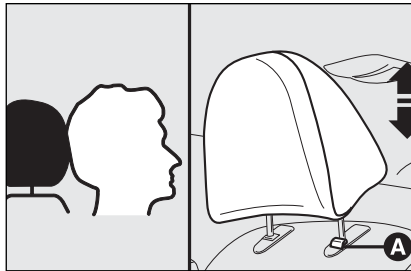

fig. 34
- to lower: press button **A**-fig. 34 and lower the head restraint.